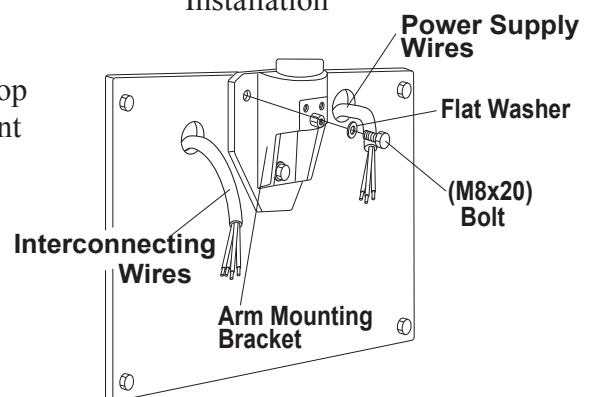

**Fig.3-1** Arm Mounting Bracket Installation
4. Using three lag screws (ø9 x 75mm) with washers in top mounting holes and in lower mounting hole, mount the arm mounting bracket on the wood stud. (Fig.3-1)